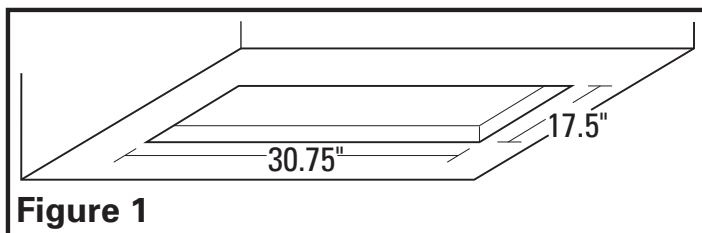

Figure 1
1. Cut a hole 30.7" wide by 17.5" deep into the cabinet or canopy the power unit will be mounted into (**Figure 1**):